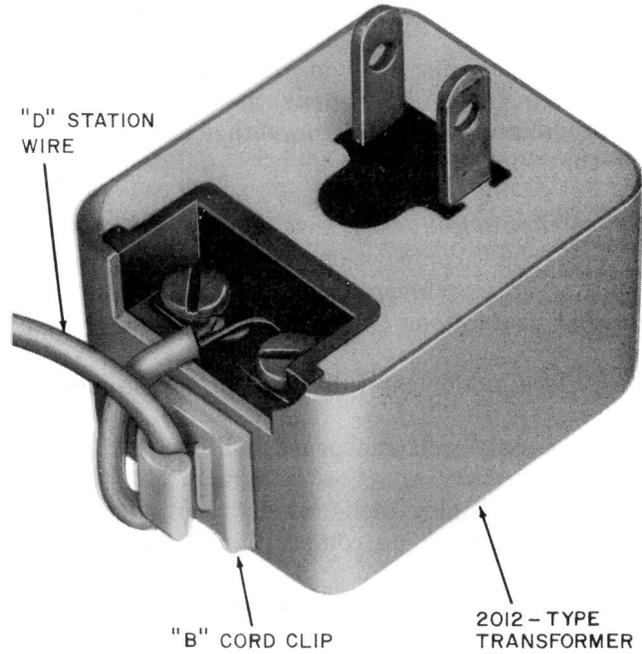

Fig. 4—Cord Clip Used to Secure Station Wire to 2012-Type Transformer
2.18 Remove protective paper from adhesive of B cord clip and stick clip to bottom of 2012-type transformers as shown in Fig. 4. Terminate D station wire on screw terminals of 2012-type transformer and hook station wire through B cord clip as shown in Fig. 4.